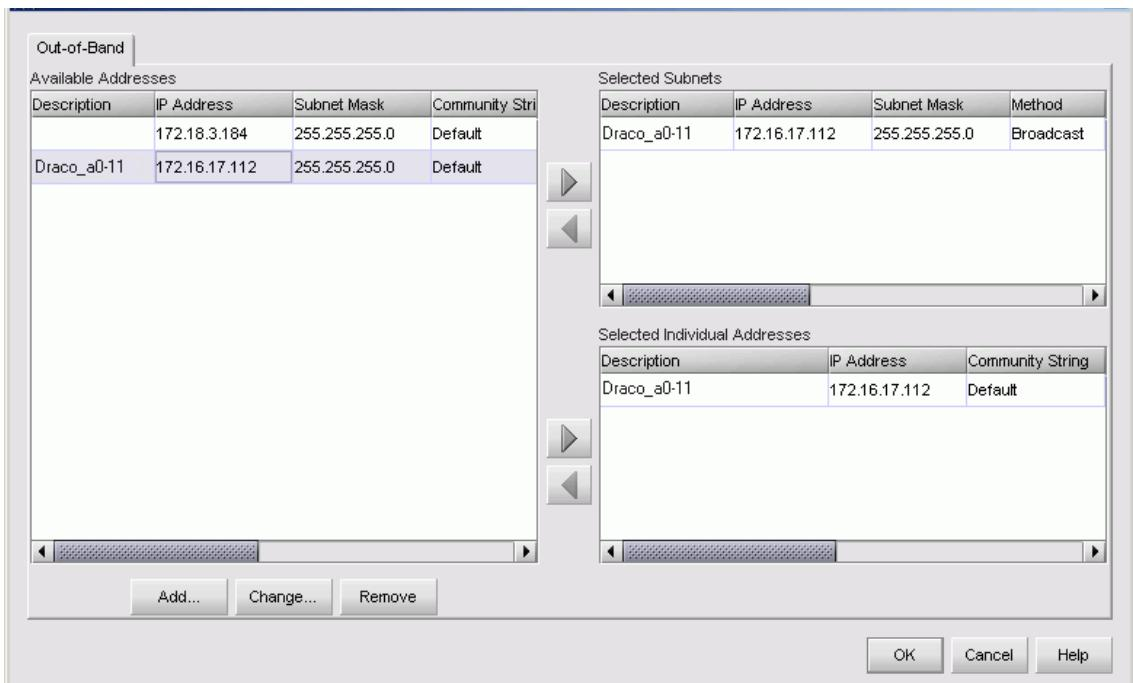

Figure 53 Discover Setup page
- c. At the HAFM application, select **Discover > Setup**. The Discover Setup page is displayed (Figure 53).
- b. Delete the icon representing the reset switch. At the HAFM application, select **Setup** from the Discover menu. The Discover Setup dialog box is displayed (Figure 53 on page 85).